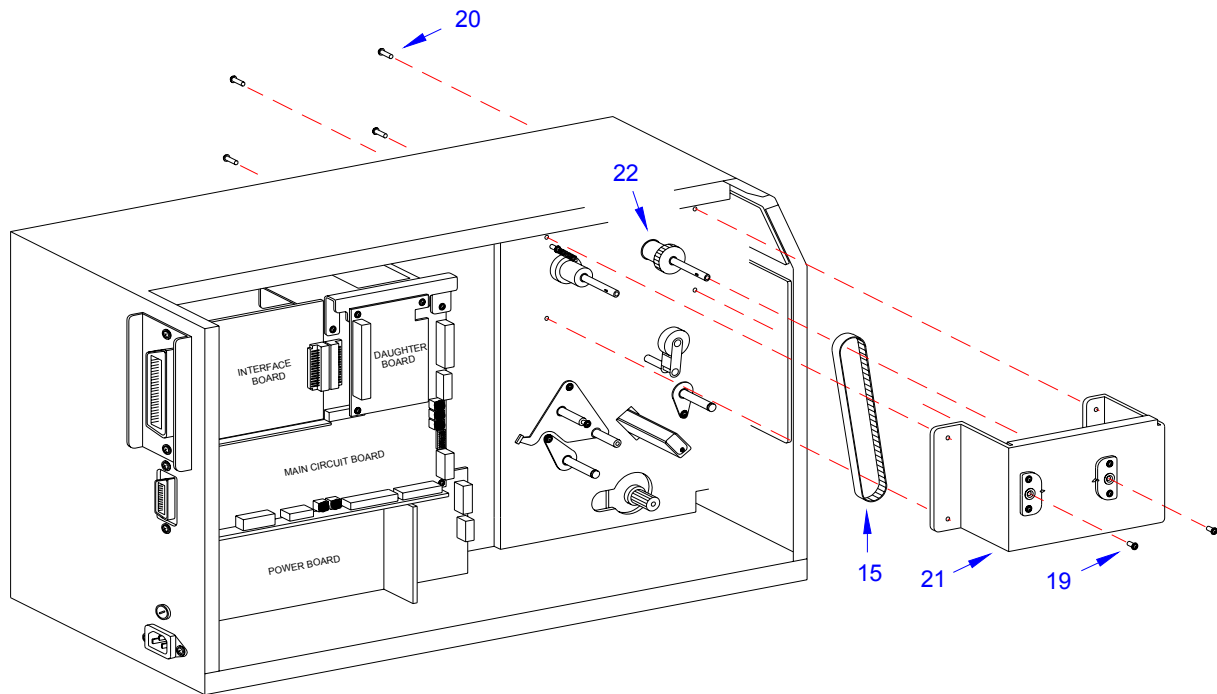

**Figure 7-12c, Platen Roller Belt Replacement**
- 7 Remove screw (11, Figure 7-12c) and loosen screw (12) to free pulley tension bracket (13).
- 8 Remove platen roller belt (14) and ribbon rewind belt (15) from feed roller pulley (16) and platen roller pulley (17) respectively.
**NOTE:** Remove e-clips (18) if removal or replacement of pulleys (16) and (17) is required.